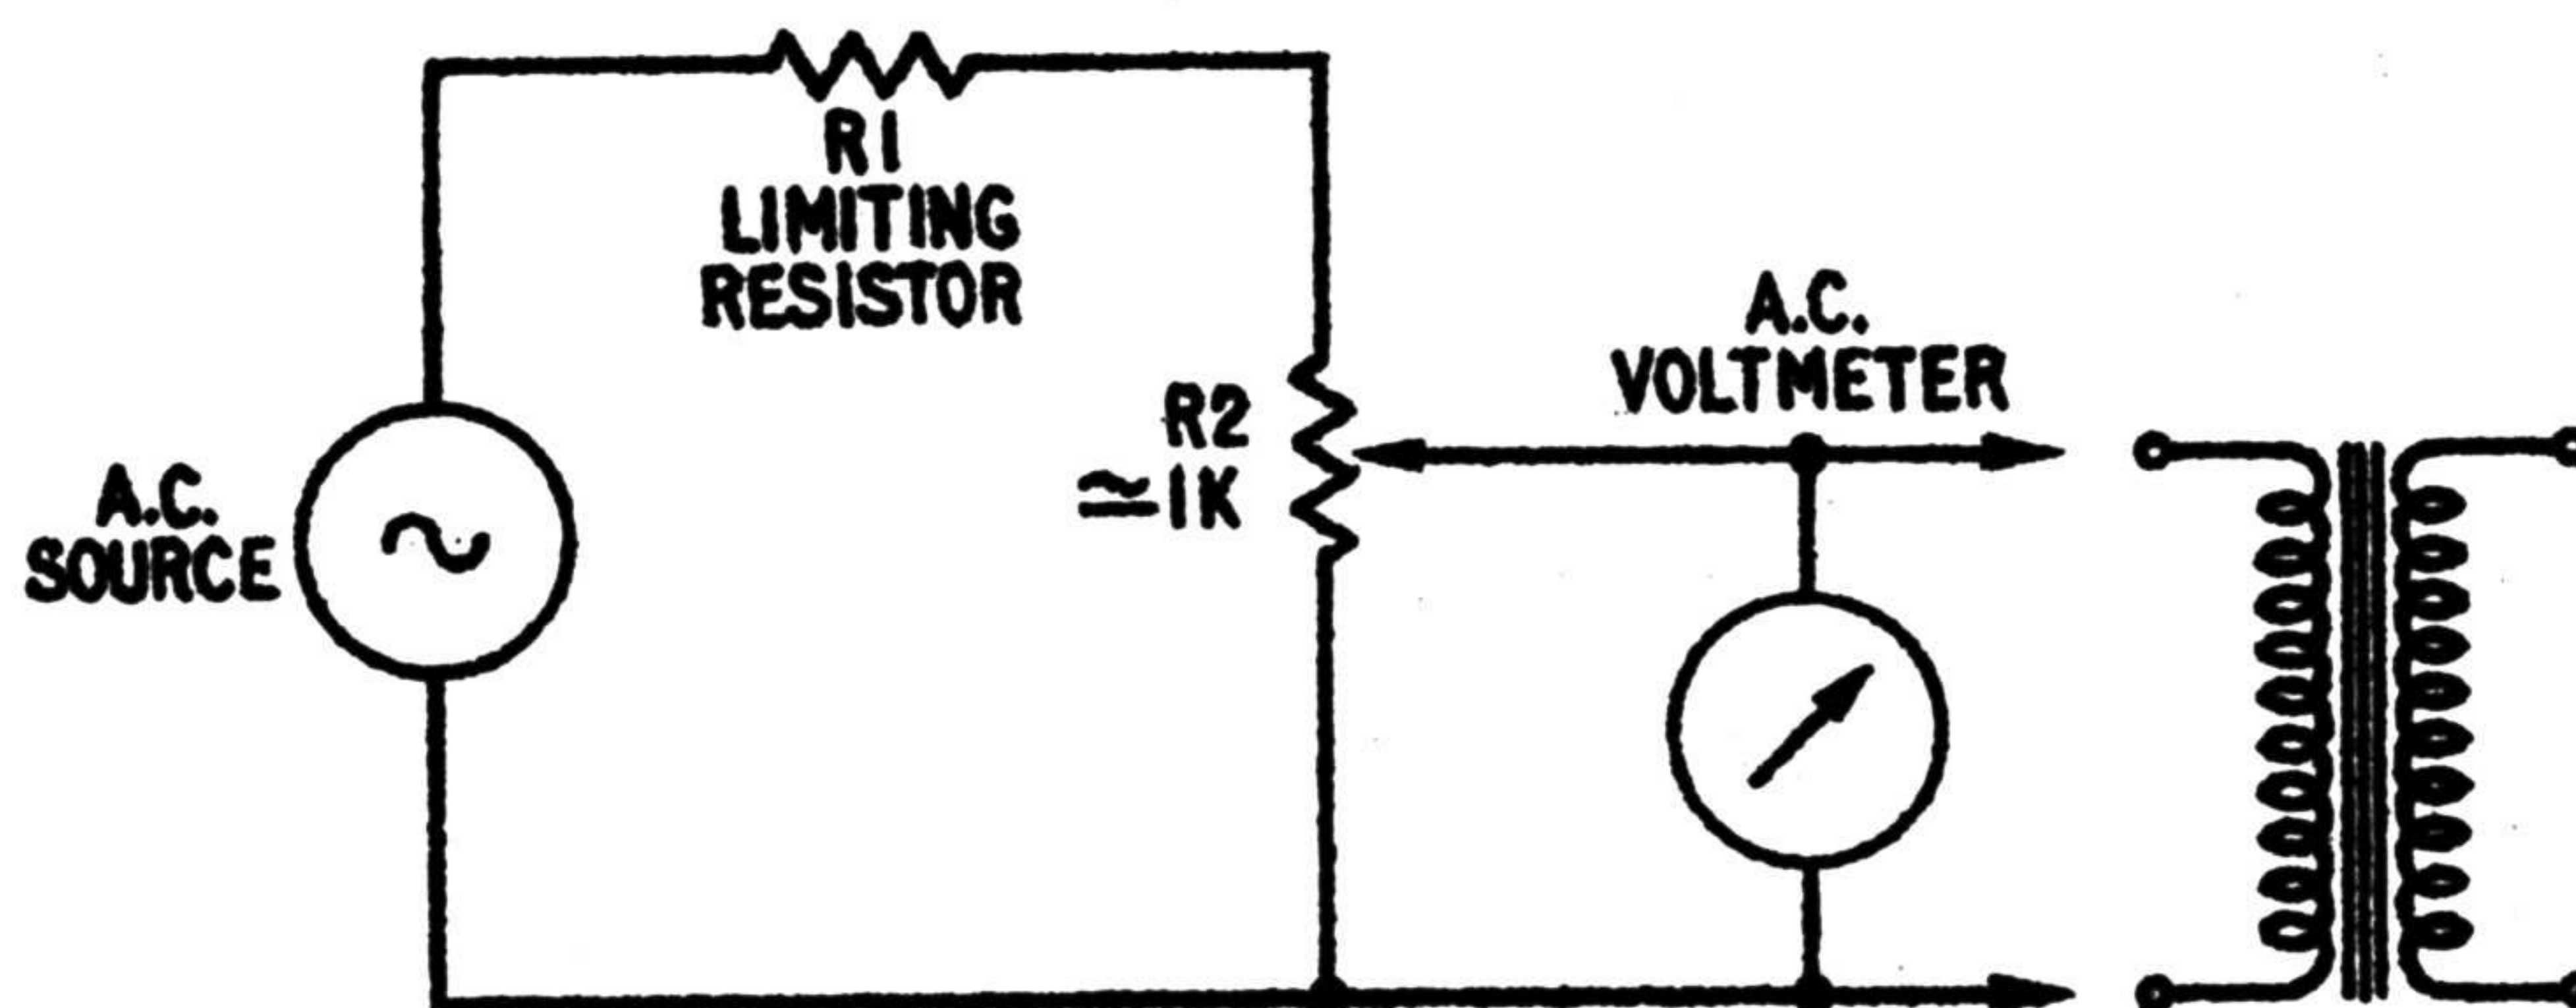

FIGURE 1
- (b) Connect the component to be treated and an a.c. voltmeter across the slider of the potentiometer and its contact which is returned to the a.c. supply. Set the potentiometer to give zero volts to the component. (See Figure 1)
NOTE: The limiting resistor in Figure 1 should be of such a value that if the slider of R1 should accidentally be taken to the fullest extent of its travel, the voltage applied to the transformer will be only slightly in excess of the maximum specified.